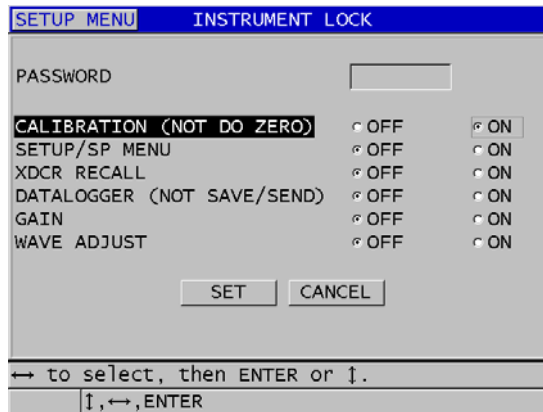

Figure 8-9 The INSTRUMENT LOCK screen
3. In the **INSTRUMENT LOCK** screen (see Figure 8-9 on page 125):